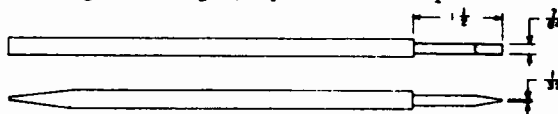

Figure 8 - Alignment Tool
3. Using a non-metallic alignment tool (See Fig. 8) peak the hi-band oscillator slug L101 for best picture detail and sound quality.